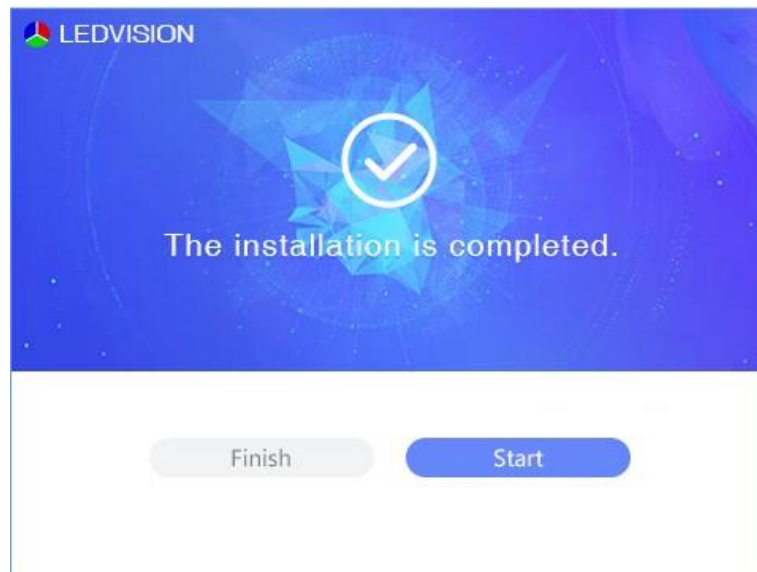

Fig 1.2.3 Installation completion
Step 4: Then, installation is completed as shown in Figure 1.2.3. After a successful installation, LEDVISION and LEDSetting shortcuts are generated on the desktop. LEDVISION is the playback software and LEDSetting is the control software.